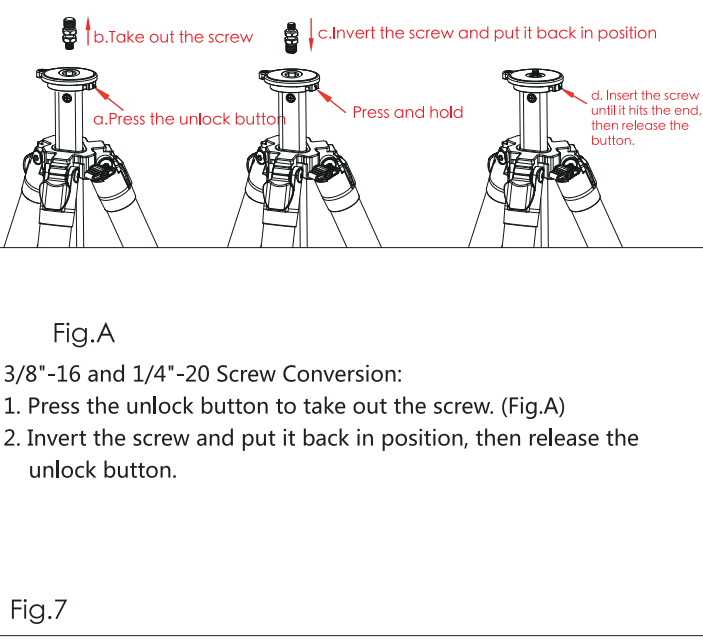

Fig.7
7. Convertible 3/8"-16 and 1/4"-20 Screw (Fig. 7)